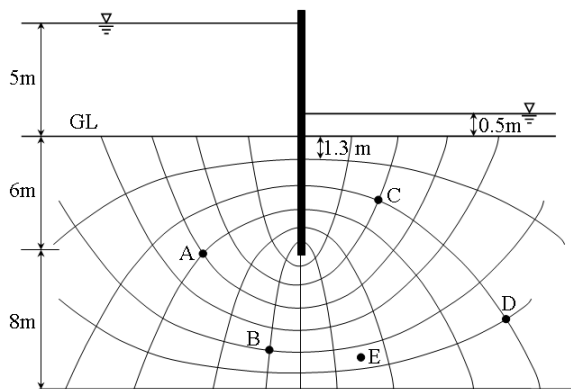

Figure 2
- (c) A single row of sheet piles (shown in Fig. 2) is driven upto a depth of 6 m in a bed of clean sand having a co-efficient of permeability of 0.004 cm/sec. An impermeable layer of very stiff clay exists at a depth of 14 m below the GL. The sheet pile wall has to retain water upto 5 m above GL. The height of water level on the downstream side is 0.5 m. The length of the last element is 1.3 m. Determine (i) the quantity of seepage loss considering unit width of the sheet